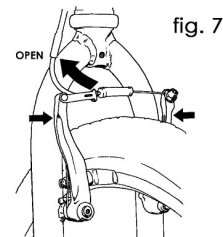

fig. 7
3. **Some bicycle brakes, such as disc brakes (fig. 6) and linear-pull brakes (fig. 7), are extremely powerful. Take extra care in becoming familiar with these brakes and exercise particular care when using them.**
**⚠ WARNING:** Some bicycle brakes, such as linear-pull (fig. 7) and disc (fig. 6) brakes, are extremely powerful. You should take extra care in becoming familiar with these brakes and exercise particular care when using them. Applying these brakes too hard or too suddenly can lock up a wheel, which could cause you to lose control and fall.